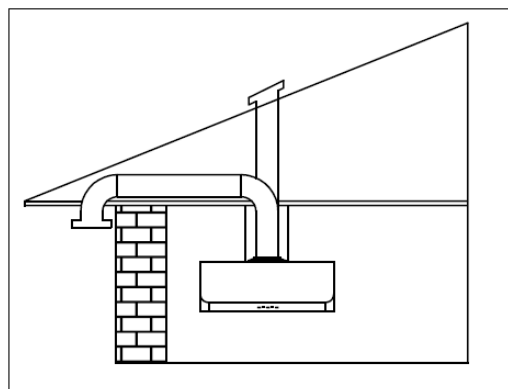

Figure 2
- Determine the location of the exhaust pipe which discharges to the outside. (Refer to figure 2) A linear and short air outlet can make the range hood work more smoothly.